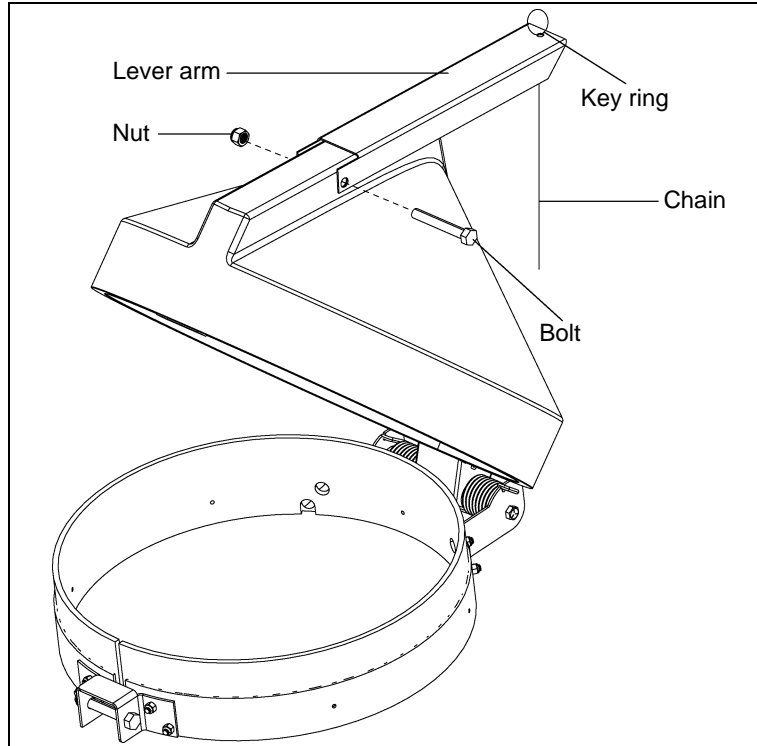
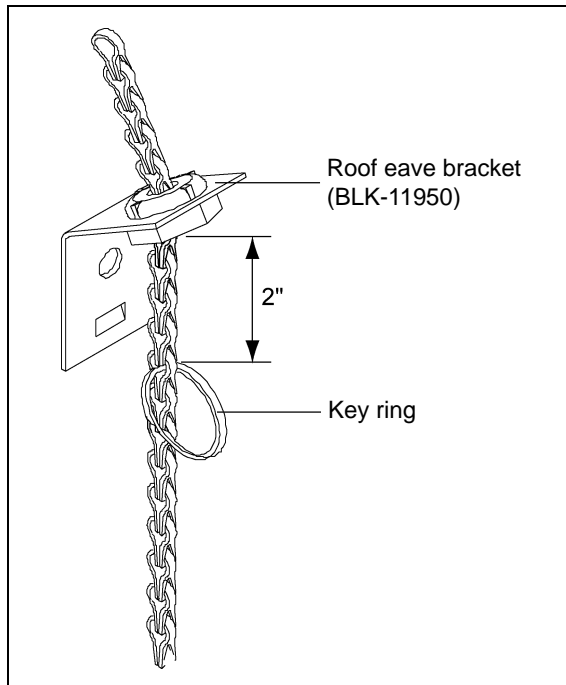
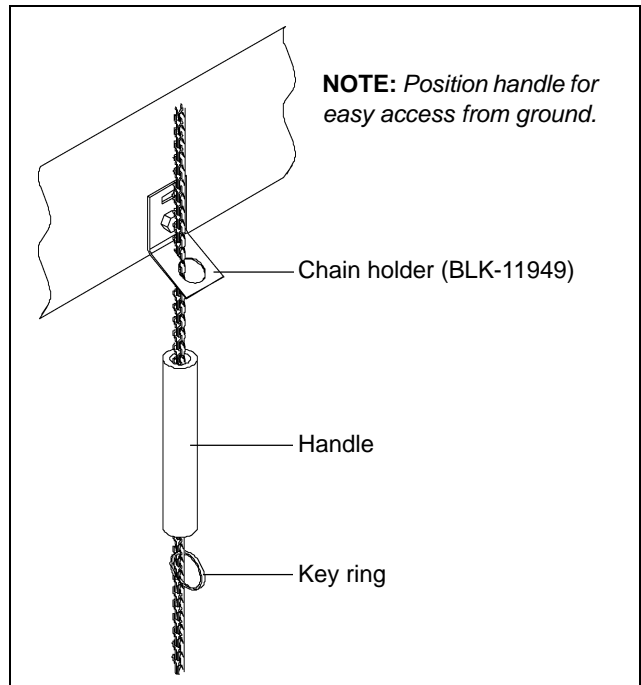

Figure 5 Install Lever Arm and Chain
Figure 8
Figure 9
4. Thread the existing chain through the hole on the end of the lever arm and fasten it to the provided key ring. (See Figure 5 on Page 3.) Ensure that the ground control chain is freely looped through the roof eave bracket and chain holder. After removing the slack in the chain while the lid is fully closed and in latched position, re-position the key ring 2" below the roof eave bracket. (See Figure 8.) Re-adjust the existing handle and key ring so the handle is positioned for easy access from ground. (See Figure 9.) Check to make sure that the key rings allow the cap to fully close, but will not allow the chain enough slack on top of the cap to become wrapped around the lever arm in a high wind condition.